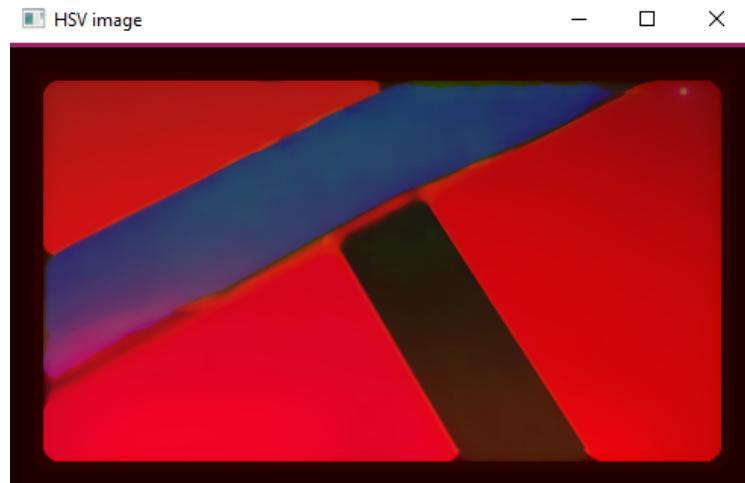

Figure 58: HSV image of silver reflective tape
- Tested new ideas of detecting the silver tape by using a different color-space than RGB. HSV seemed promising at first glance as seen in Fig. 58. This attempt also turned out to be useless, as black insulating tape looks very similar to silver tape in both RGB and HSV with our bright light